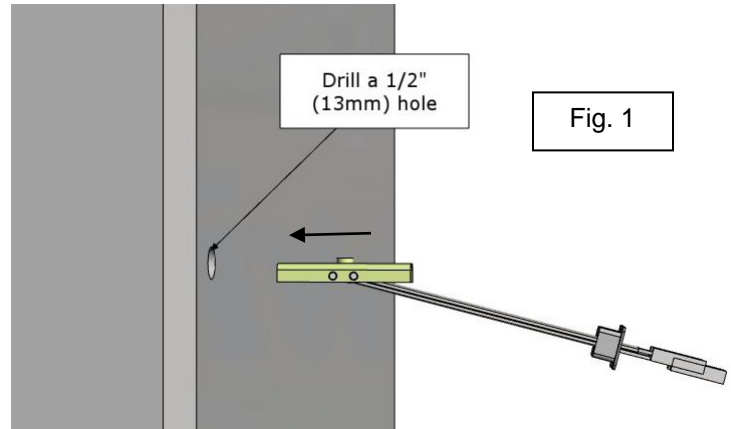

Fig. 1
1. **LOCATION** – Make certain that the chosen wall bracket location is near enough to the connection interface so that it can be connected to it. The cables can also enter from behind the wall bracket. Also position the wall bracket at a mounting height of 47±2 inches. See Figure 1.
1. Drill a 1/2" (13mm) hole. Hold metal channel flat alongside plastic straps and slide channel through hold. Minimum clearance behind wall 1-7/8" (48mm). Fig. 1